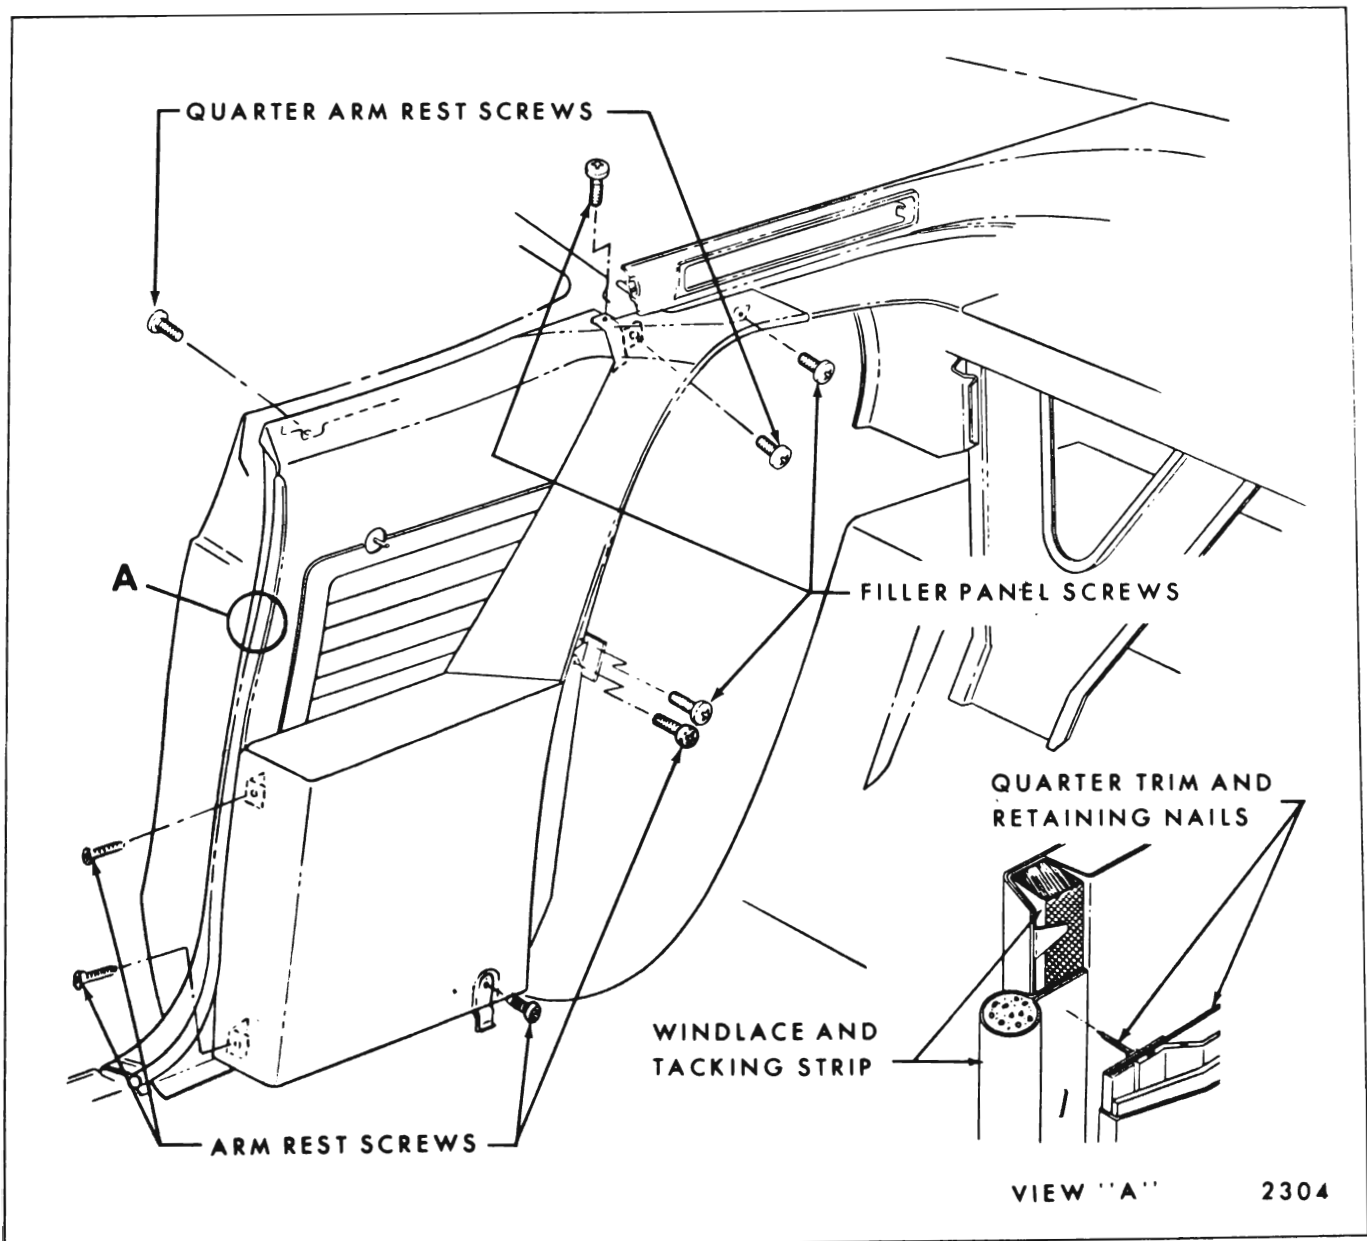

Fig. 14-40—Shelf Trim Removal - "E" Body 39487 Style
2. a. On 39487 style, remove seat back filler panel attaching screw (Fig. 14-40).